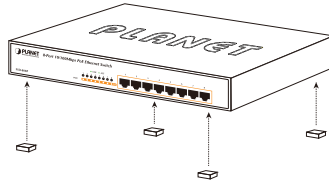

Figure 3-1: Attaching the Rubber Feet to the PoE Fast Ethernet Switch
Step 1: Attach the rubber feet to the recessed areas on the bottom of the Switch, as shown in Figure 3-1.